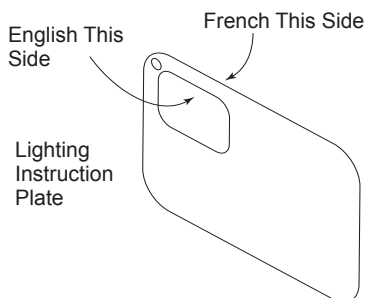

Figure 6 - Applying English and French Conversion Labels Over Existing Certification Labels on Lighting Instruction Plate
1. Apply the English and French conversion labels over the top of existing certification labels (see Figure 6). Existing certification labels are located on the lighting instruction plate inside the gas valve compartment area. With permanent ink, print the previous model number on the label in the space provided (see Figure 7).